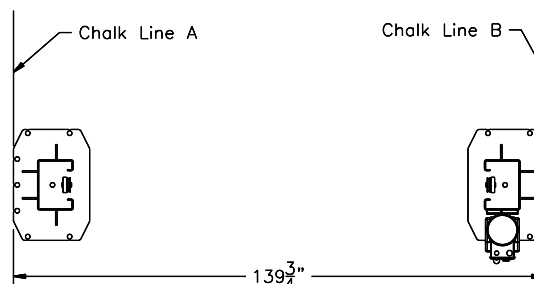

Fig. 1 – Column Layout
| See Figure 1 | EELR537A / EELR738A | EELR537A / EELR738A with 2 Ft. Ext. Kit |
- Using the Overall Width (C) Dimension from **Fig. 1**, chalk two parallel lines on the floor within 1/8" tolerance. Erect both column assemblies. Align the base plate edges to the chalk lines.
- 6) Recheck "Inside of Columns" dimension, **Fig. 1**. Drill the anchor holes using the base plate as a template. Drill through the floor if possible or to a depth of 5 inches minimum.